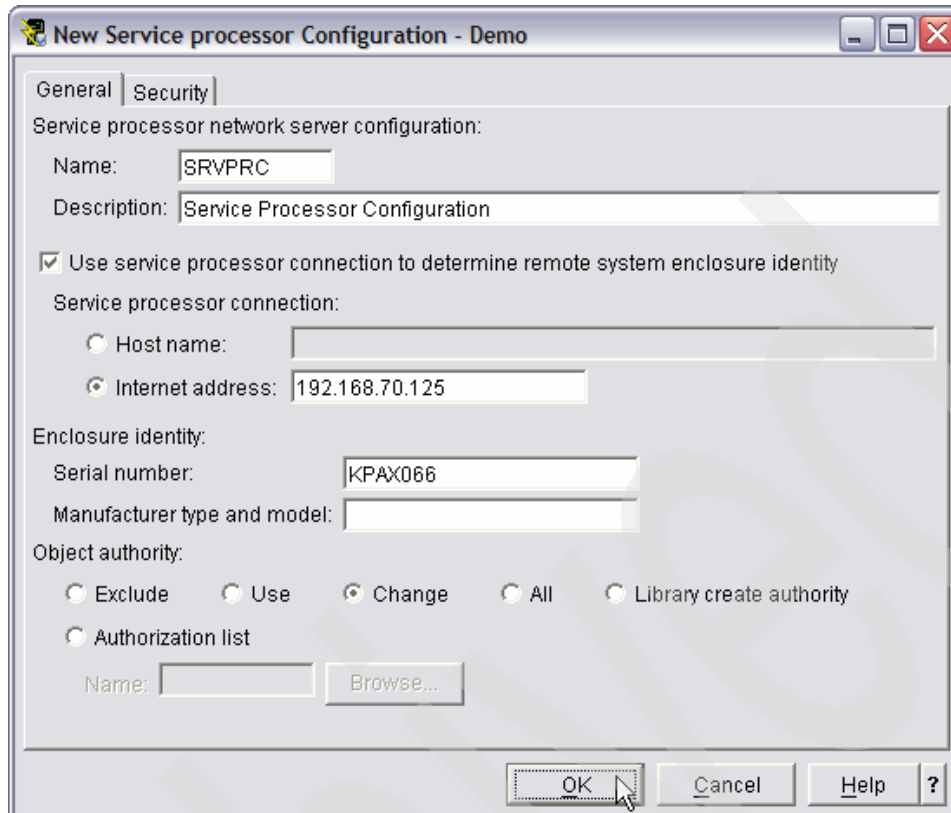

Figure 6-30 General tab New Service Configuration window
- c. The New Service Processor Configuration window opens, on the General tab, enter the following (Figure 6-30 on page 178):